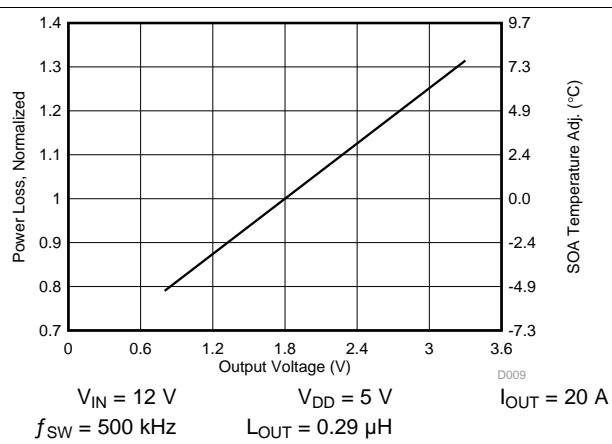

Figure 11. Normalized Power Loss vs Output Voltage
- Normalized Power Loss for output voltage  $\approx 0.93$  (Figure 11)
- SOA adjustment for output voltage  $\approx 1.0^{\circ}\text{C}$  (Figure 11)